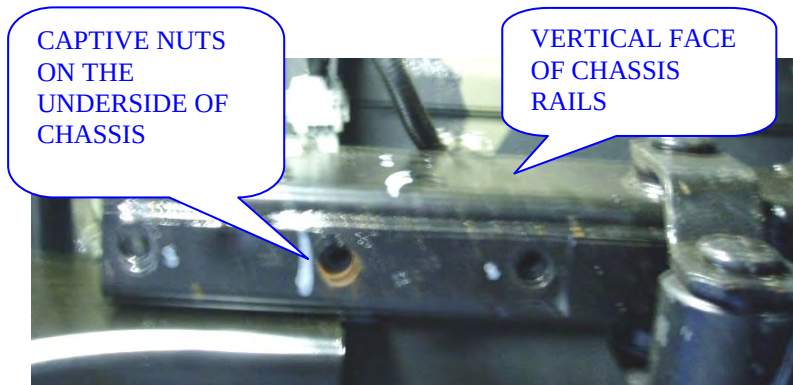

FIG 1
2. Offer tow bar to rear of vehicle so to align slots in side plates with captive nuts on the underside of the chassis rails see fig 1.